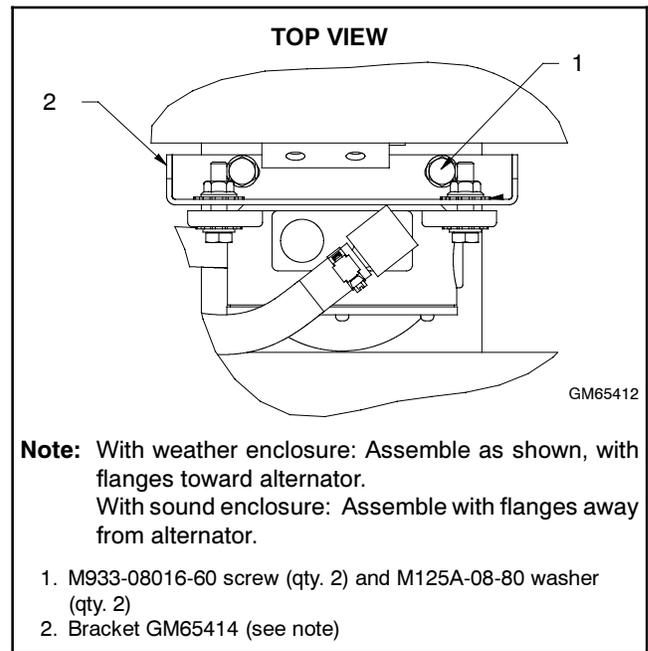

Figure 5 Oil Level Bracket Mounting
9. Install oil level mounting bracket GM65414 using the mounting holes with weld nuts that were used for the battery charger mounting bracket. Use two M933-08016-60 screws and two M125A-08-80 washers to attach the bracket to the skid as shown in Figure 5. Note the different orientation of the bracket with the sound enclosure or weather enclosure indicated in Figure 5.